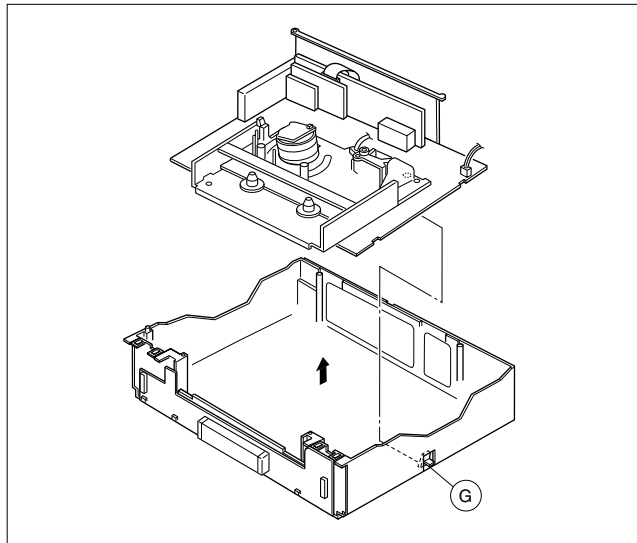

Fig. 1-4-2
- (7) Remove the hook (G) while holding the edge of the Main board assembly, and remove the Main board and Mechanism assemblies together. At this stage be careful of the power cord and prongs of the jacks on the back side. (Refer to Fig. 1-4-2.)